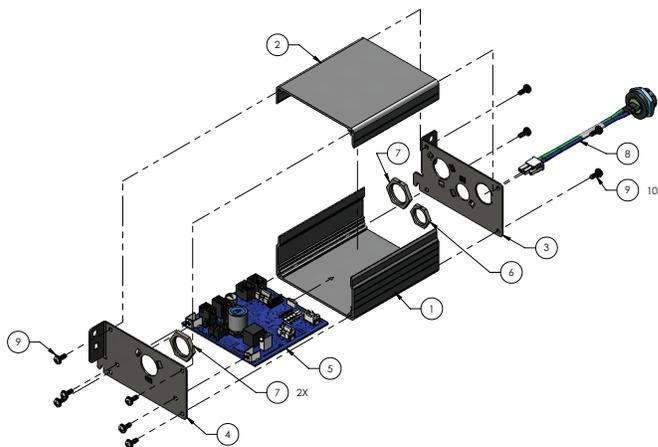

Figure 12 – ACB replacement
9. Using a #2 Phillips screwdriver, remove and save the four screws (9) that secure the ACB faceplate (2) to the ACB box (Figure 12).
11. Using a #2 Phillips screwdriver, remove and save the two screws (9) that secure the ACB (5) to the ACB box (Figure 12).
11. Using a #2 Phillips screwdriver, remove and save the four screws (9) that secure the ACB faceplate (2) to the ACB box (Figure 12).
10. Using a #2 Phillips screwdriver, remove and save the four screws (9) that secure the ACB faceplate (2) to the ACB box (Figure 12).